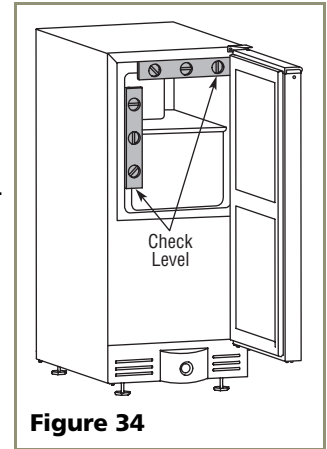

Figure 34
1. Use a level to check the levelness of the ice maker from front to back and from side to side. Level should be placed along top edge and side edge as shown (see **Figure 34**).